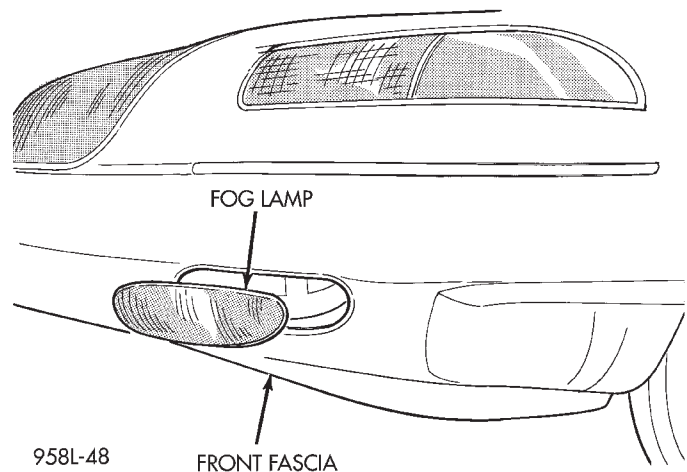

Fig. 2 Fog Lamp
- (1) Remove screws holding fog lamp to front bumper fascia.
- (2) Remove fog lamp from fascia.
- (3) Disconnect wire connector from fog lamp bulb base.
- (4) Remove fog lamp from vehicle (Fig. 2).